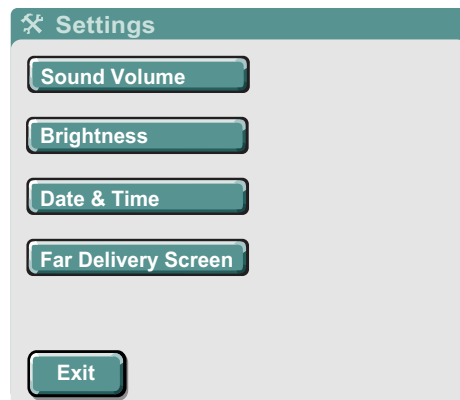

Figure 11: Settings Screen
6. Press **Exit** to return to the previous screen. See Figure 11: "Settings Screen" on page 28.
6. On the **SETTINGS SCREEN**, press **Exit** to return to the previous screen. See Figure 11: "Settings Screen" on page 28.
4. On the **SETTINGS SCREEN**, press **Exit** to return to the screen from which the Settings screen was accessed. See Figure 11: "Settings Screen" on page 28.